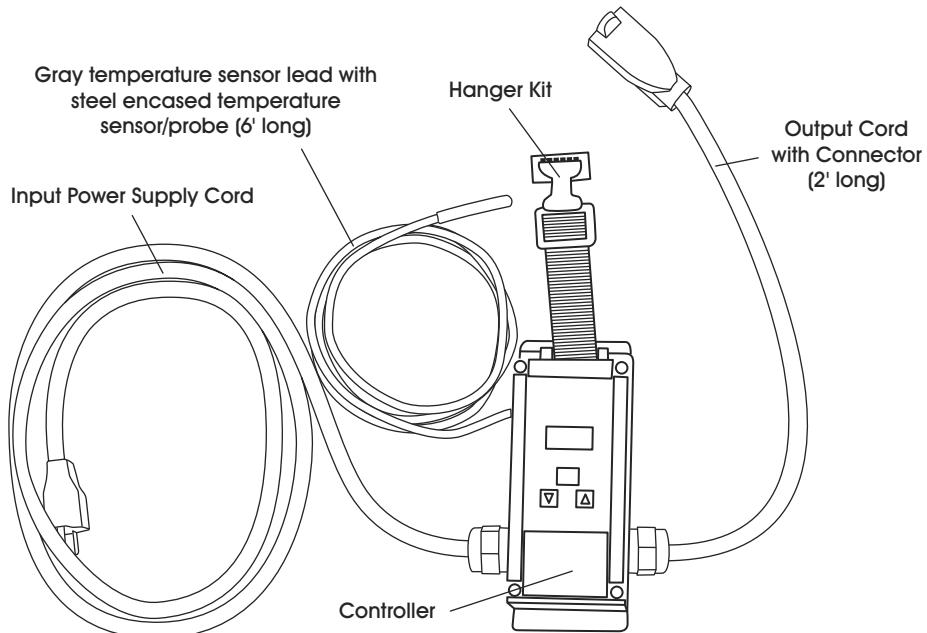

Figure 1
**NOTE:** Place the temperature sensor between the blanket and the IBC. (See Figure 1)